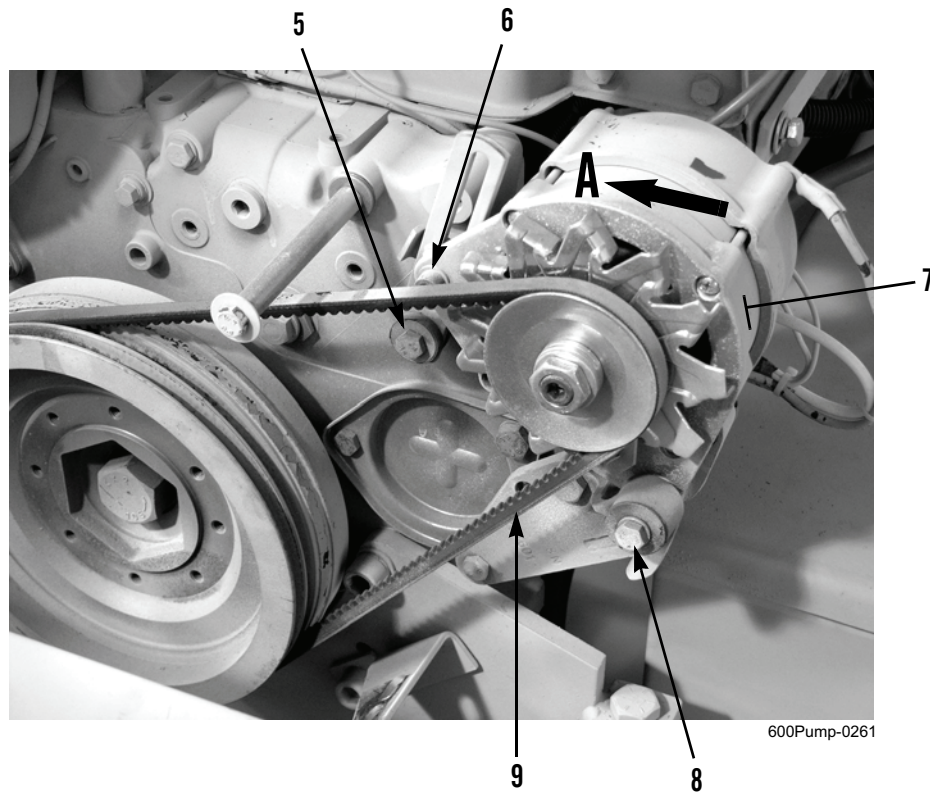

Figure 2. Alternator V-Belt Removal.
2. Loosen bolts (Figure 2, Items 5, 6, and 8).
3. Press inward on alternator (Figure 2, Item 7) in direction of arrow (A) and remove alternator V-belt (Figure 2, Item 9).